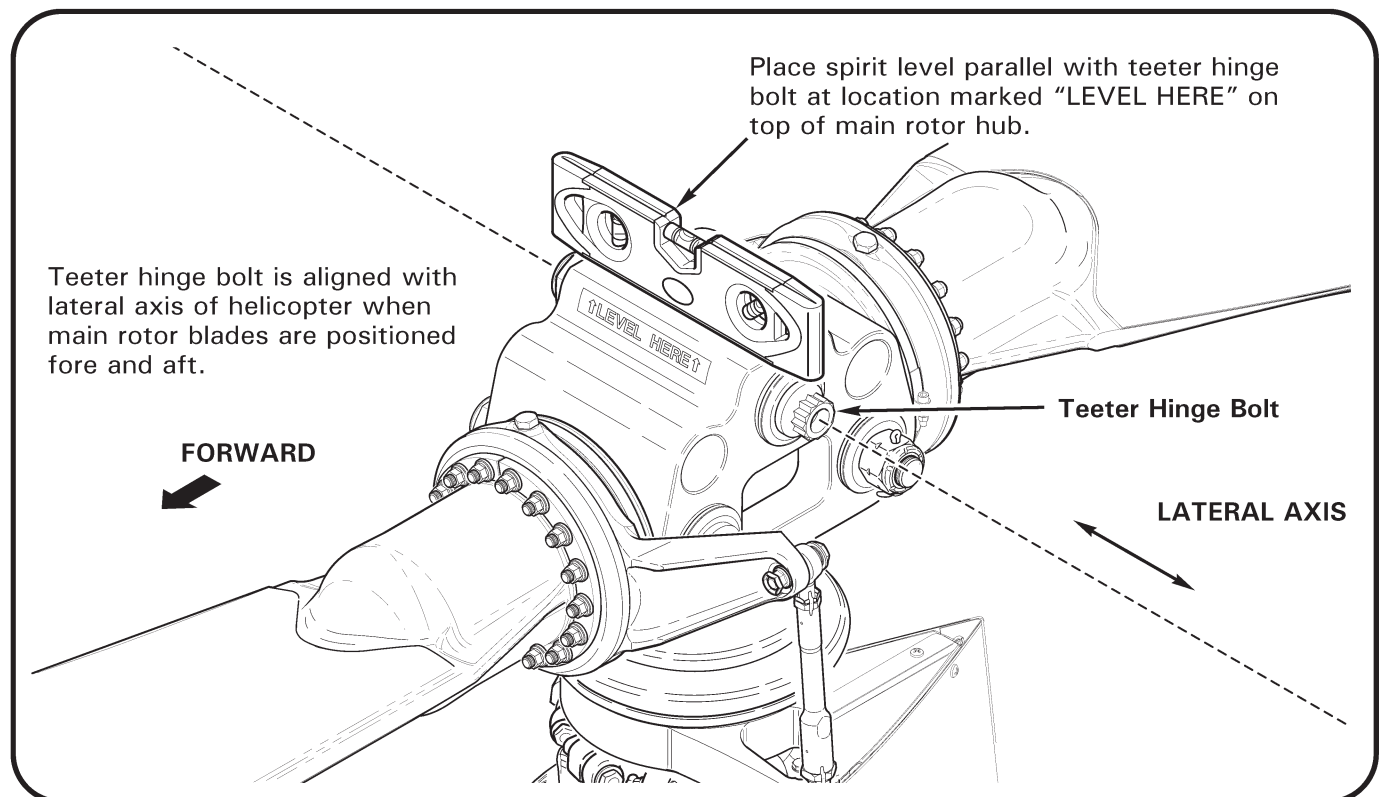

FIGURE 18-2 LEVELING AT MAIN ROTOR HUB
1. Inspect main gearbox (4) rubber mounts. Verify no deterioration. Replace mount(s) if deteriorated.
3. Refer to Figure 18-2. Place a spirit level atop main rotor hub parallel to teeter hinge bolt at location marked "LEVEL HERE".